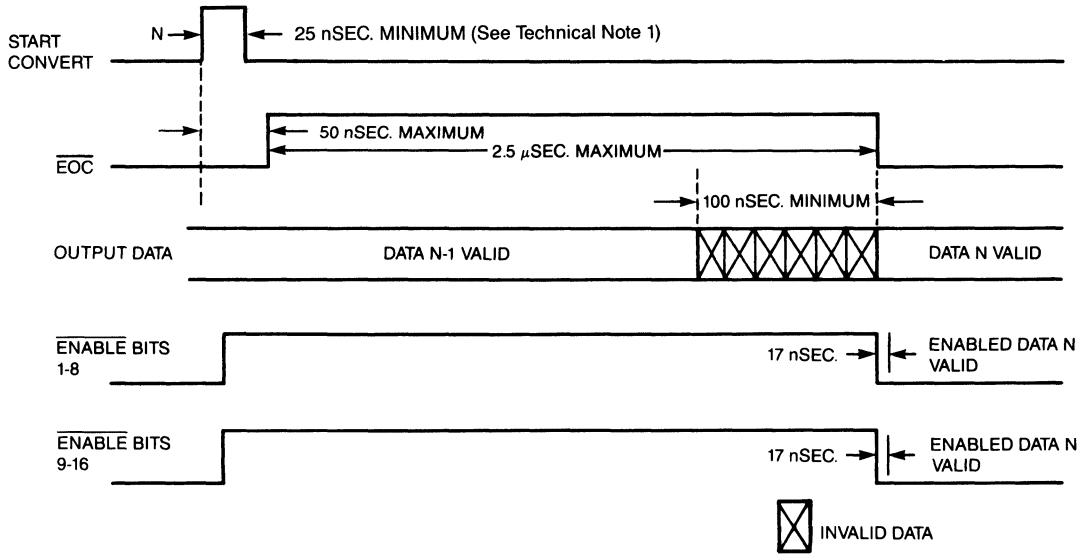

Figure 3. ADC-974 Timing Diagram
- EOC may be high or low on power-up. The first conversion needs a 125 nSec. minimum start convert pulse if EOC is high. The first conversion should be ignored if continuous 25 nSec. start convert pulses are used. The EOC falls 15 nSec. maximum after the new data has been strobed into the data output storage registers. Typically, it takes 3 nSec. before data is available at the outputs after EOC goes low. Refer to Figure 3.